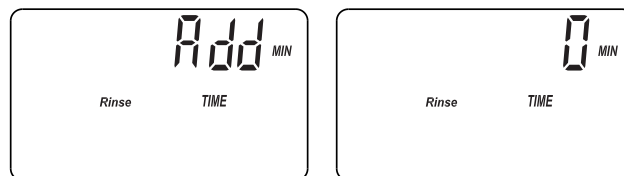

Figure 32
**BACKWASH & FAST RINSE TIMES:** If you experience salty tasting water after regeneration, you may need to increase the backwash and fast rinse times. The cycle times during regenerations are determined by the softener’s electronic controller. However, you may increase the backwash and fast rinse times, in 1 minute increments. If you wish to increase the backwash time, use the  $\triangle$  UP button to add up to 15 minutes to the backwash time. Then press SELECT to display the alternating screens shown in Figure 32.